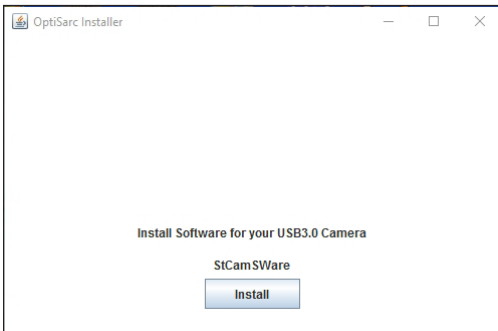

Fig. 5–Click Install to open the camera software installation wizard.
3. To install the camera software, click **Install**. The Camera Install Shield Wizard opens. Follow the instruction on screen. When the camera software installation is finished, close the wizard. Click **Next** on the **OptiSarc** Installer window. The μ Manger Software Installer appears (Fig. 5).